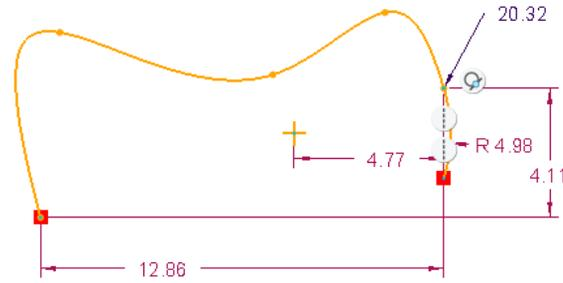

Figure 3-14 Radius of curvature dimensioning
3. Press the middle mouse button to place the dimension. Figure 3-14 shows the radius of curvature dimensioning of a spline.